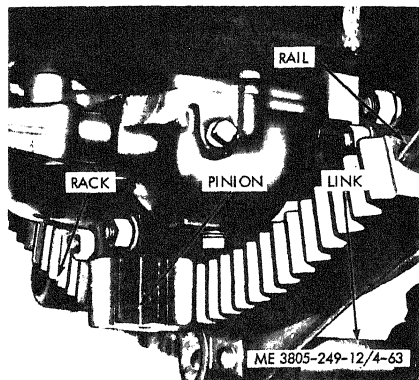

Figure 4-63. Centershift rack.
a. *Centershift Rack Replacement.* Refer to figure 4-63.
(1) Disconnect the link.